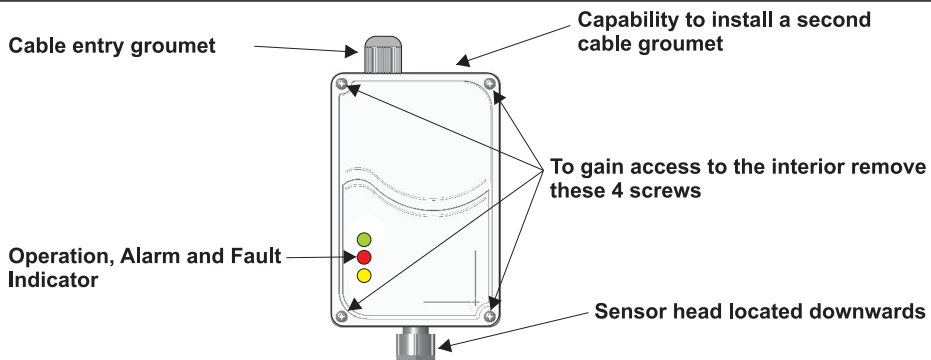
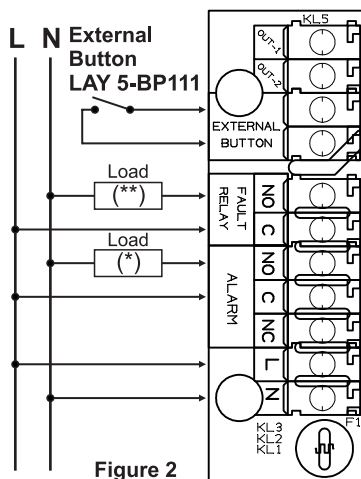

Figure 1. Interior access, cable entry and indicators
Figure 2
To mount the device, unfasten the 4 retaining screws.(figure 1). Next, using the diagram on figure 2 to realize the external connections of the system. The device operates with a mains voltage of 240V AC (with a voltage range of 197 to 265V AC).
To calibrate the device, remove the 4 retaining screws (figure 1) in order to gain access to the interior.
2. Remove the gland with the filter located on the sensor head (figure 1).